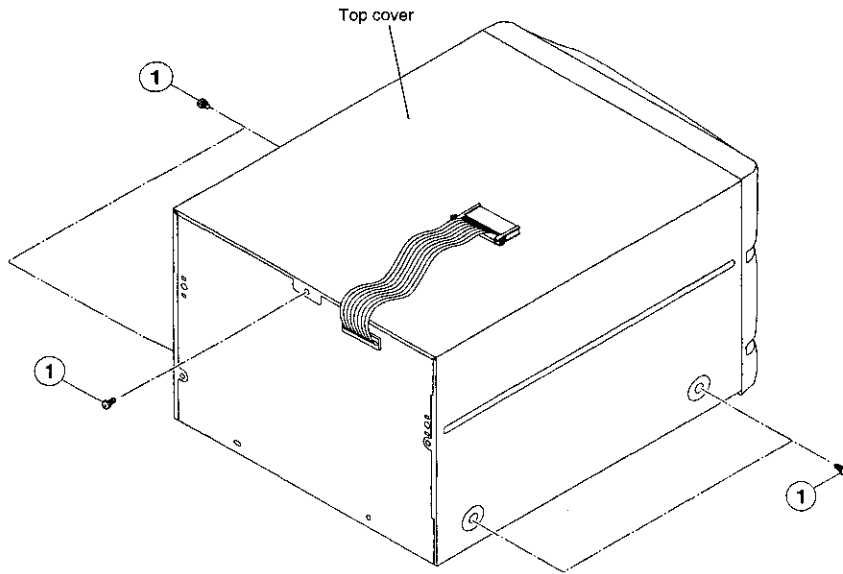

Fig. 14
1. **Removal of the Top Cover (Fig. 14)**